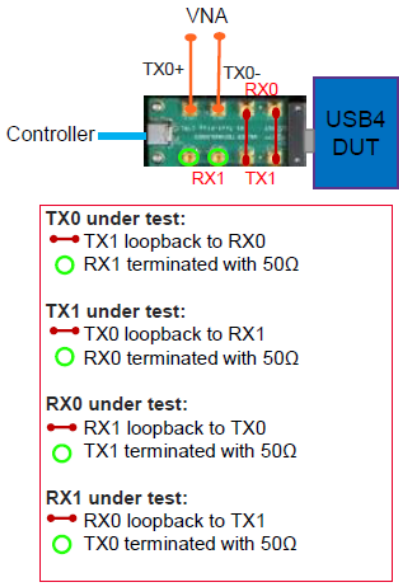

Figure 128 SMP test fixture - Tx/Rx lane switching
- 8 In case of SMP test fixture, Tx/Rx lane under test can be switched as shown in Figure 128.